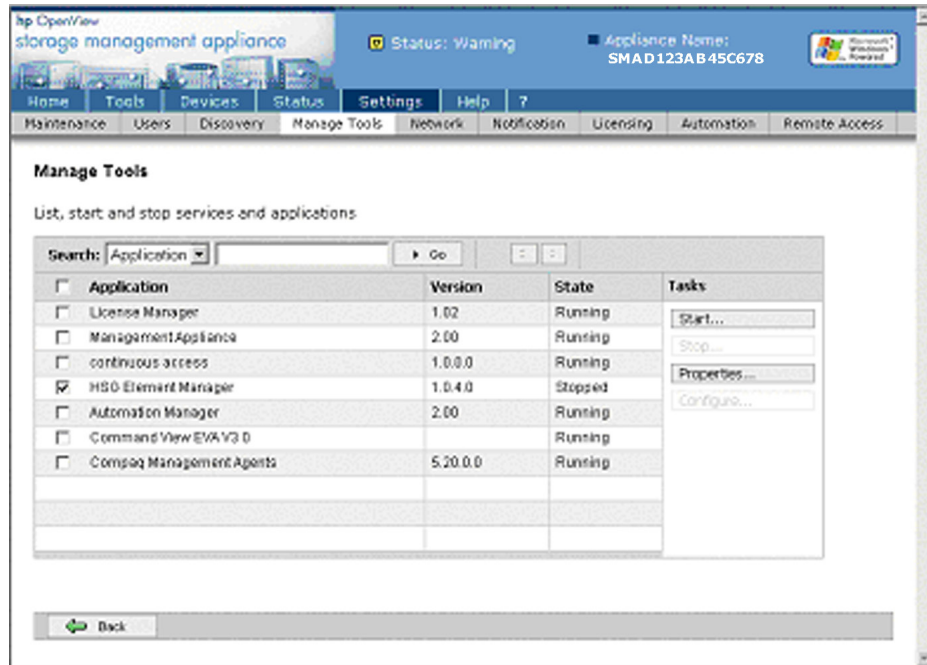

Figure 36: Selected applications to restart on the Manage Tools page
2. Choose the check boxes of the applications to be restarted. The **Start** and **Properties** tabs become visible under the **Tasks** sections (Figure 36).